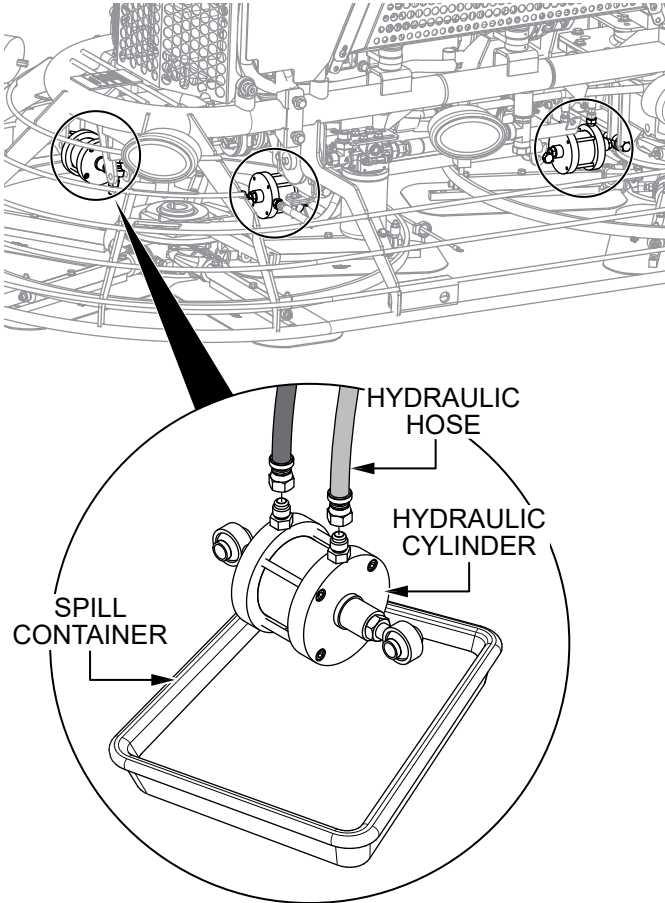

Figure 4. Disconnect Hydraulic Hoses
1. Disconnect hydraulic hoses (Figure 4) from the hydraulic cylinders. Mark or tag each hose to ensure correct reconnections later.